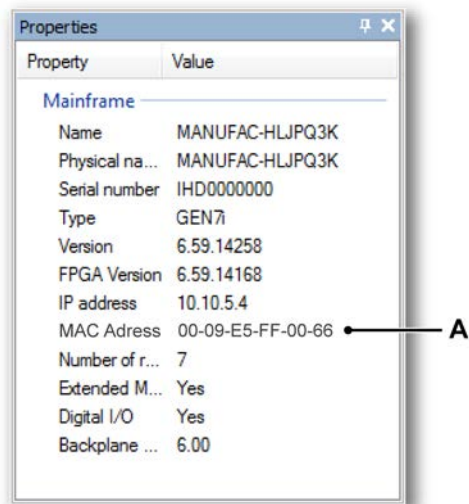

Figure G.5: Properties window in Perception
- 3 Enable the **Properties Window** (see Figure G.5); this can be found in the Perception “Windows” menu.